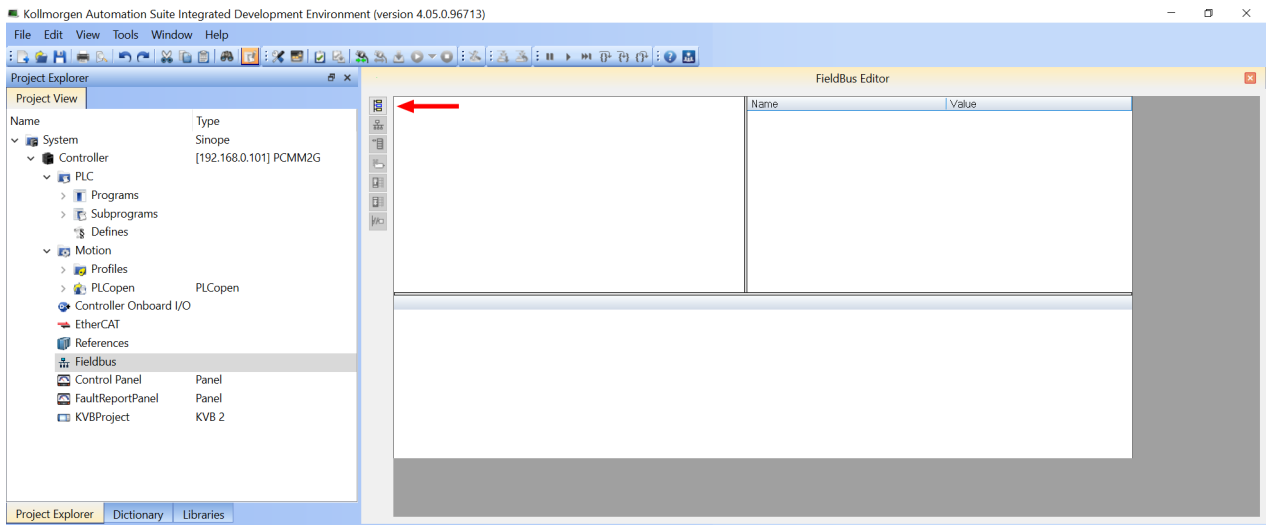

Figure 2-6: Insert Network (Configuration) button
2. On the vertical toolbar, click the **Insert Network** (Configuration) button (). (Figure 2-6)